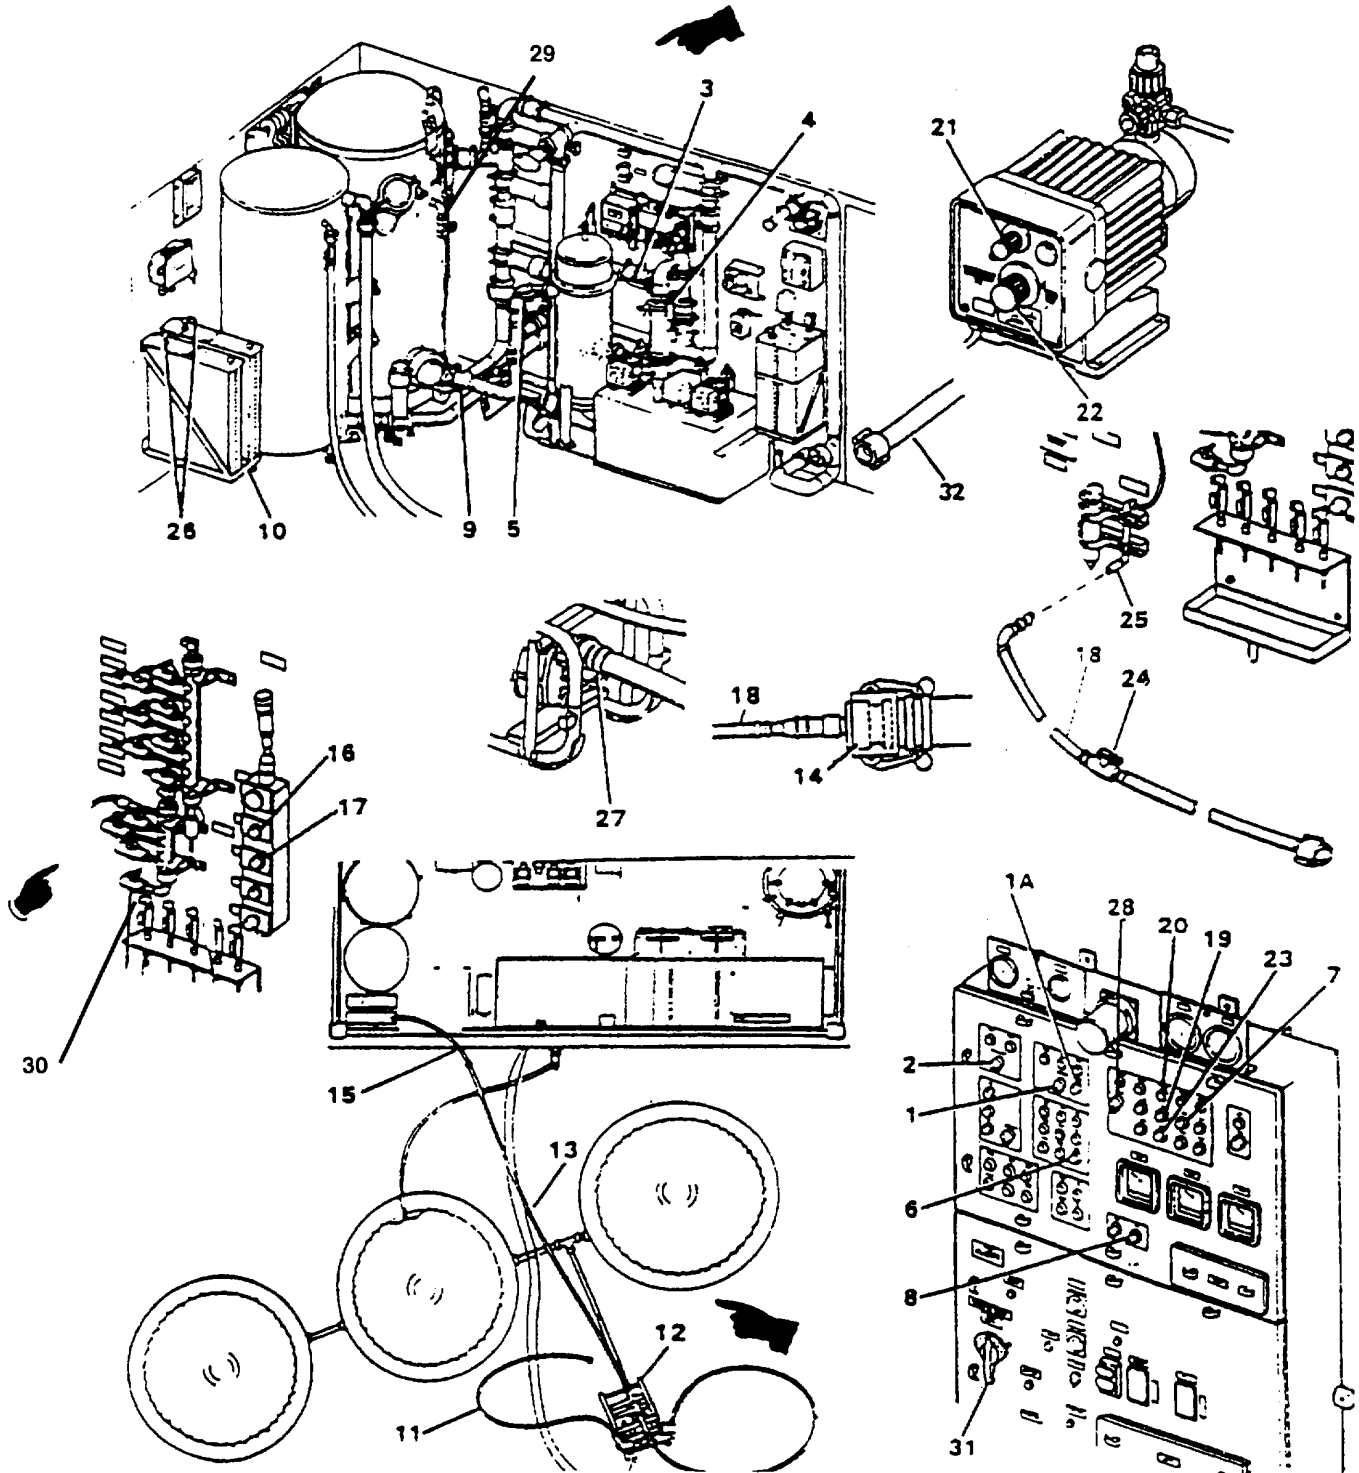

Figure 2-54. Flushing of Polyelectrolyte and Sequestrant Tanks
- (1) Fill clean/flush tank with potable water (para. 2-23d (1))
- (2) Set SYSTEM MODE switch (2) to SYSTEM ON.
- (3) Set OPERATION MODE switch (1, Figure 2-54) to SYSTEM Clean; Push INITIATE pushbutton (1A).
- (4) Open feed valve (3). Close cleaning bypass valve (4).
- (5) Open cartridge filter block valve (5).
- (6) Push MEDIA FILTER FORWARD FLUSH pushbutton (6) to open valve.
- (7) Push BOOSTER PUMP START (7). Hold pushbutton in until pressure rises above 10 psig.
- (8) When clean/flush tank empties and pump stops, push SYSTEM RESET(8) if alarm sounds.
- (9) Repeat steps (1) through (8) for a second flush.
- (10) While flushing, partially open the media filter lower drain valve (9).
- (11) Check the TDS of the flushwater.
- (a) Remove the waste out hose (32) from the ROWPU Van waste out connection.
- (1) Clean according to procedures of Table 2-28 or 2-29.
- (2) Continue with bisulfite sanitizing cleaning (para. 2-26).
- g. Flush chemical tanks (see Figure 2-54).
- (1) Open drain valves (10) at both tanks.
- (2) Disconnect one dispensing hose (11) from distribution pump (12); connect auxiliary fill hose (13) to pump.
- (3) Pass hose through doorway and connect water flush adapter (14).
- (4) Connect flush/purge hose (15) to water flush adapter (14). Push DISTRIBUTION PUMP OFF (17) pushbutton and turn distribution pump selector switch to ON. Slowly open valve on "flush/purge" hose to prevent blowing the lines.
- (5) Push DISTRIBUTION PUMP ON (16) and use hose to flush out both tanks and to partially fill, then push DISTRIBUTION PUMP OFF (17).
- (6) Disconnect flush/purge hose (18) from water flush adapter (14). ■
- (7) Press CHEMICAL PUMP START (19).
- (8) CHEMICAL PUMP START light (20) on panel should glow green.
- (1) Connect flush/purge hose (15) to the utility air connection (25).
- (2) Connect flush/purge hose to the quick-disconnect (26) on the tank.
- (3) Open hose valve (24) and dry out chemical tubing for 2 minutes. Close valve.
- (4) Repeat steps 2 and 3 for sequestrant tank.
- (5) Repeat steps 2 and 3 for hypochlorite tank.
- (6) Disconnect flush/purge hose and store in storage box #3.
- i. Secure equipment (Figure 2-54).